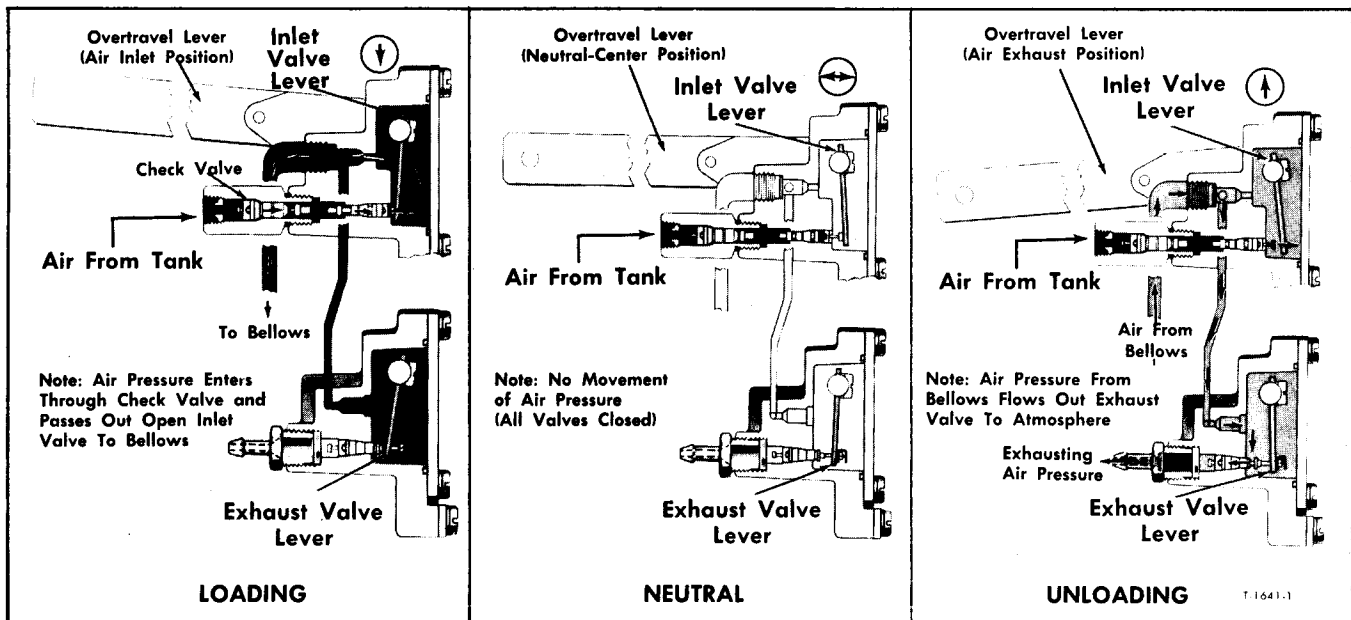

Figure 9—Operation of Height Control Valve
**HEIGHT CONTROL VALVE OPERATION - (FIGURE 9)**